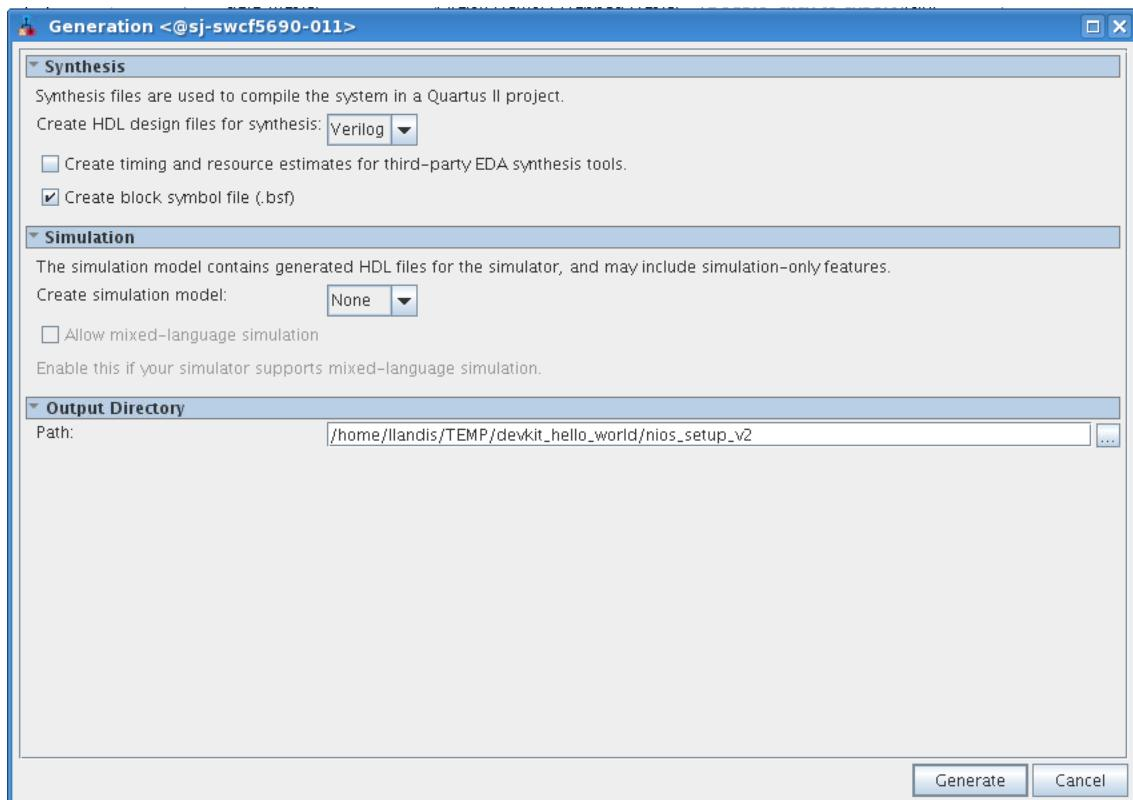

Figure 28: HDL Generation Panel
- Click on the button **Generate HDL**. A screen like Figure 28 should appear.